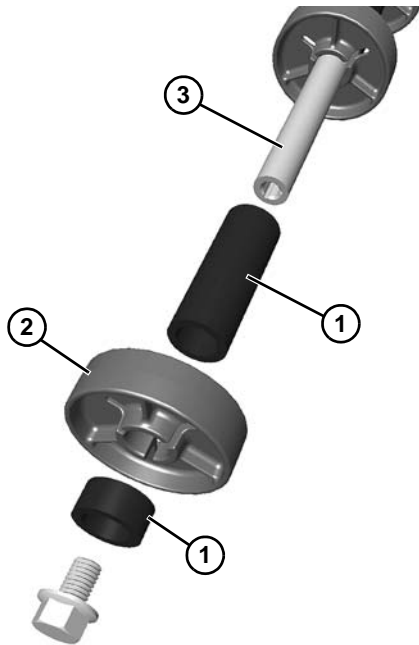

Figure 97
13. Remove tube spacers (**Figure 97, item 1**) and idler pucks (**Figure 97, item 2**), as needed, from each side of idler tube (**Figure 97, item 3**).